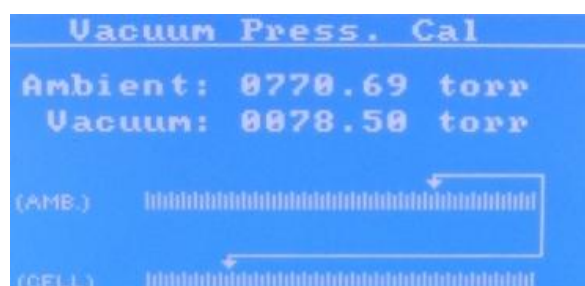

Figure 10 Pressure menu
7. The screen will display two horizontal bar (Figure 10) the first (Amb) is for the ambient pressure sensor, the second (Cell) is for the cell pressure sensor
7. The screen will display two horizontal bars (Figure 10) the first (Amb) is for the ambient pressure sensor, the second (Cell) is for the cell pressure sensor